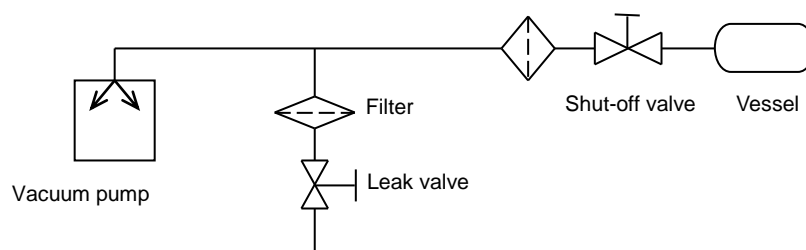

Fig. 3.2 Example of Piping Used When Evacuating a Vessel
- 5) When evacuating a vessel, ensure that a shut-off valve is placed between the pump inlet pipe and the vessel (see Fig. 3.2).
If it is necessary to maintain a vacuum, attach a shut-off valve or three-way valve between the pump and vessel. Refer to fig.3.2 for a piping example using a shut-off valve.